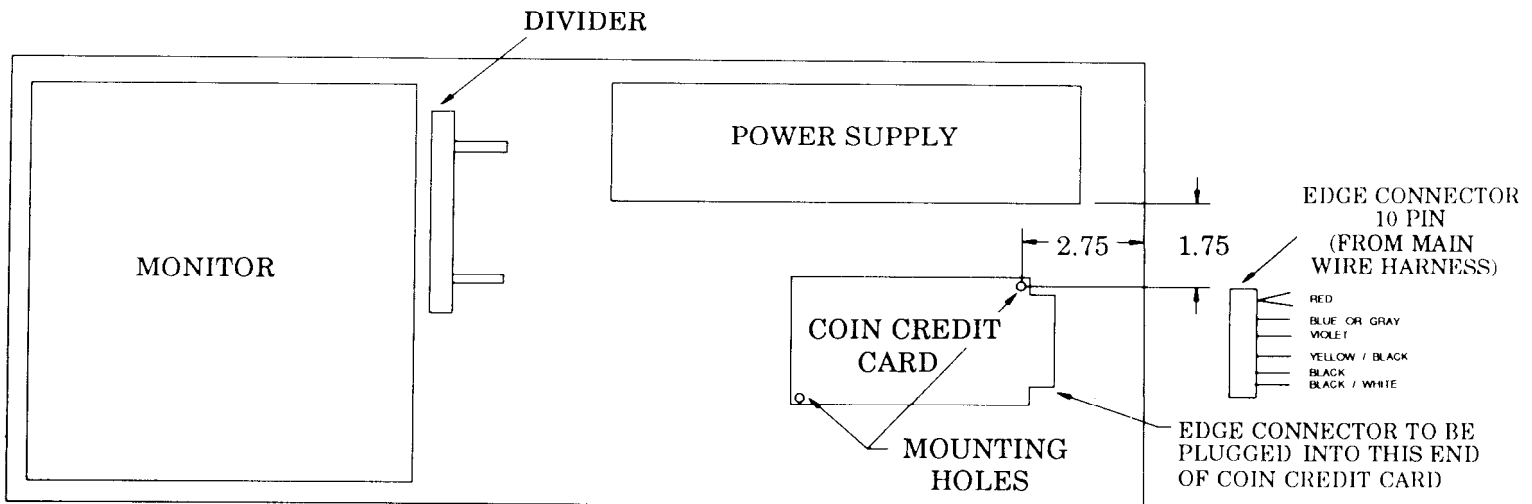

FIGURE 3
6. If your component tray is a newer tray and has two holes for mounting the PC board skip Step 7. See Figure 3 for direction of board. Make sure the board will not come in contact with the component tray mounting screws and washers.
9. Snap the board in place and plug into new main harness. (See Figure 3 for position of connector.)